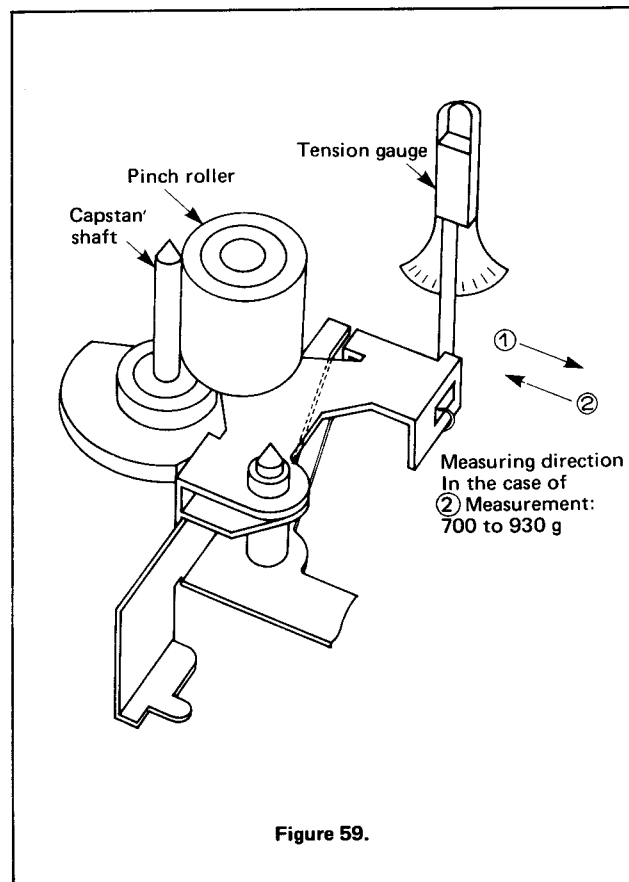

Figure 59.
6. Using a tension gauge, pull the pinch roller in the direction reverse to its pressure-applied direction, so that the pinch roller will move away from the capstan shaft. See Fig. 59.